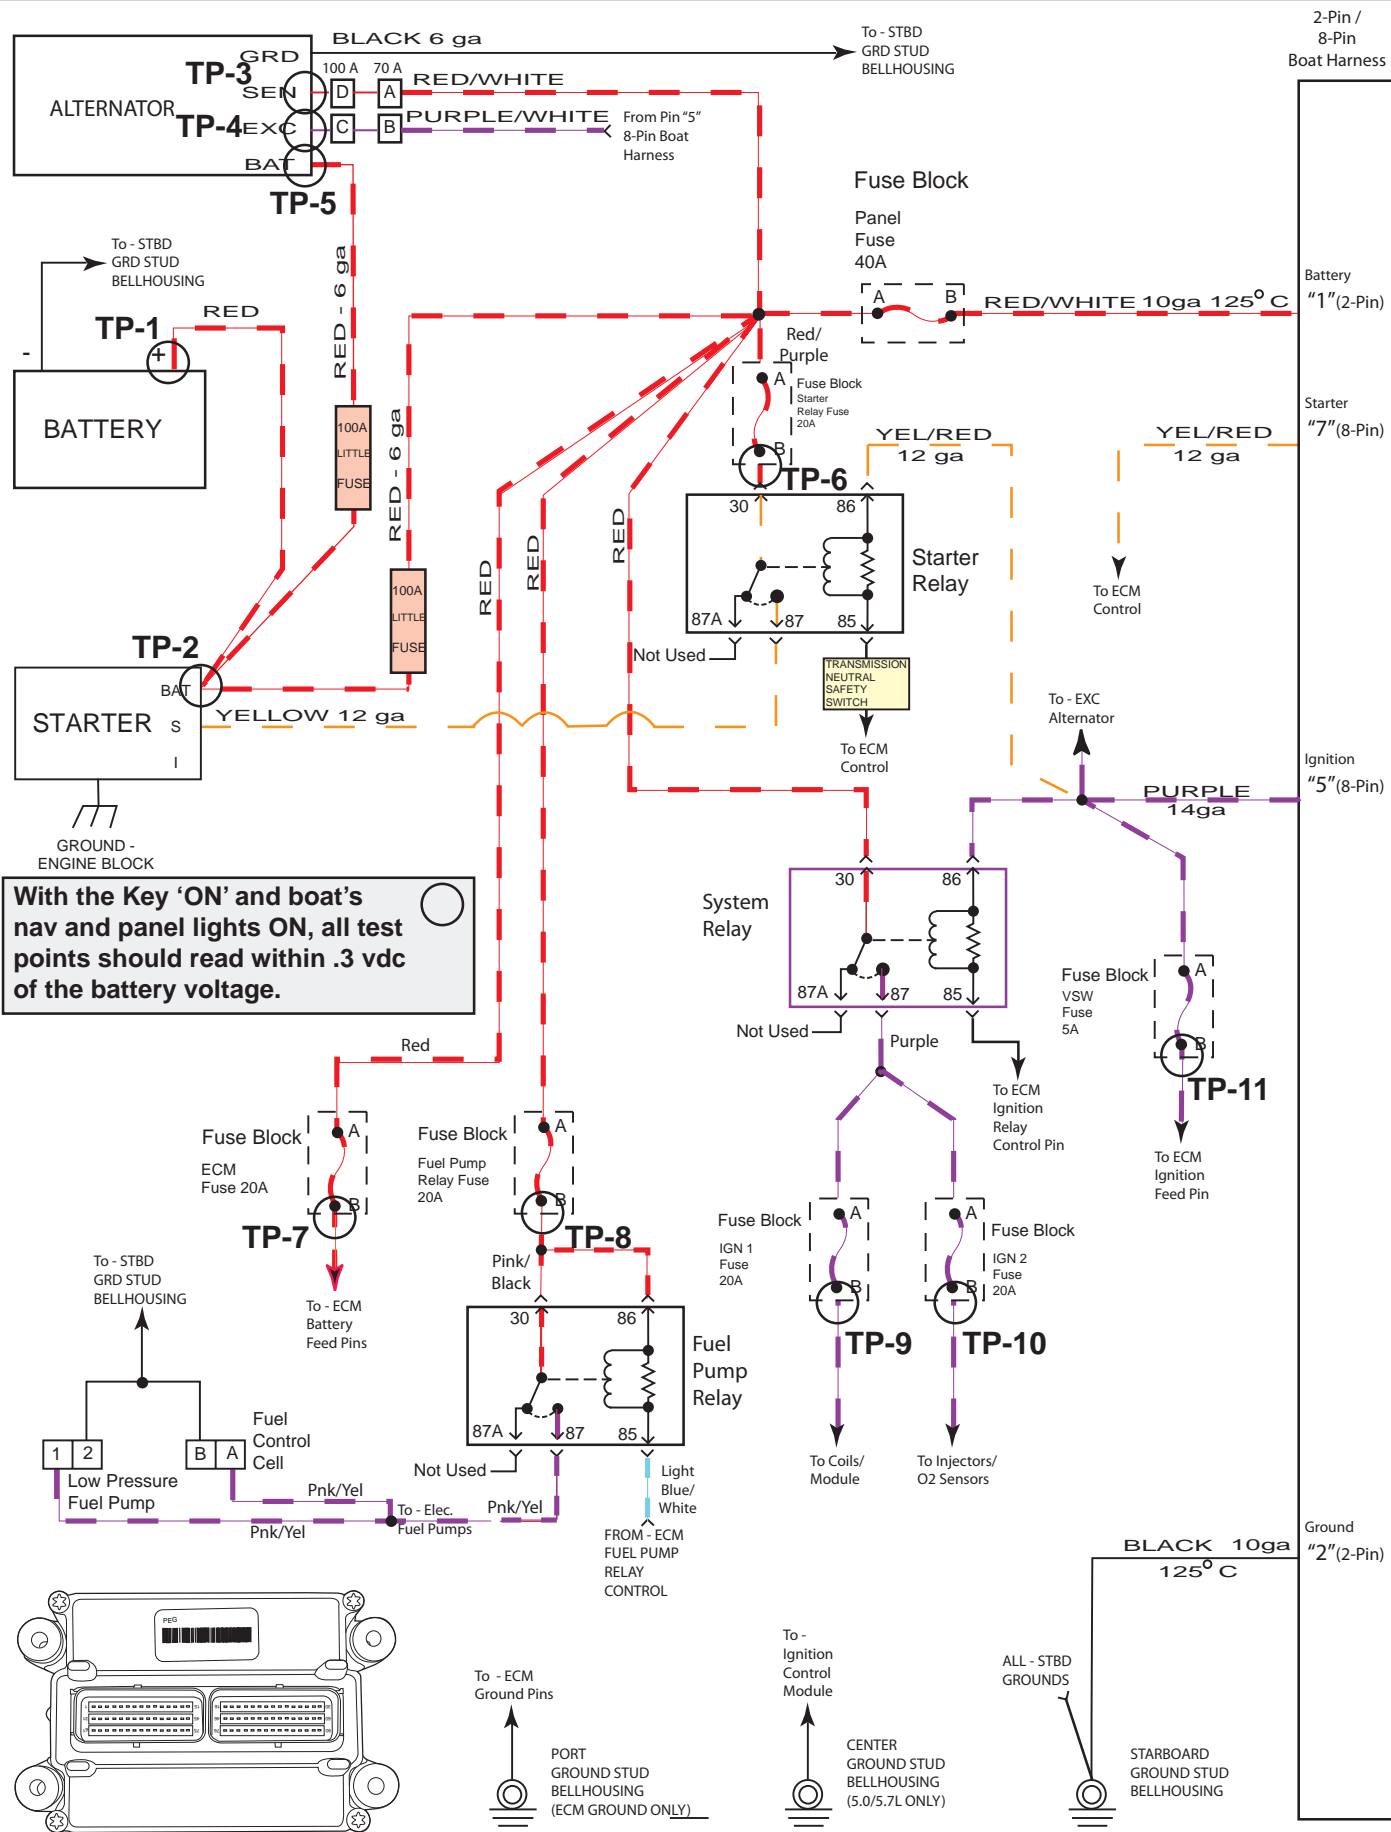

Figure 5-6 System Power Test Points
3. Refer to Figure 5-6. After checking battery voltage and battery cable connections, Turn the ignition 'ON' and apply a load to the battery by turning ON the Navigation Lights and boat Courtesy Lamps. Verify that system power is not less than the battery voltage by more than 0.3 vdc at the test points shown. The test points are at junctions, connectors and fuses that are either routing points for system power or after major splices in the engine harness. As you take measurements at each of these points inspect for tightness of the connectors and inspect for corrosion. You should clean or repair connections as necessary. Turn the lights and ignition switch OFF when you have completed the test.
NOTE: Test points are labeled on Figure 5-6 for easy reference. If battery voltage is not available at TP-2 (starter battery terminal). Ensure that the boat's Battery Switch (if equipped) is in the correct position before troubleshooting or replacing the cable.